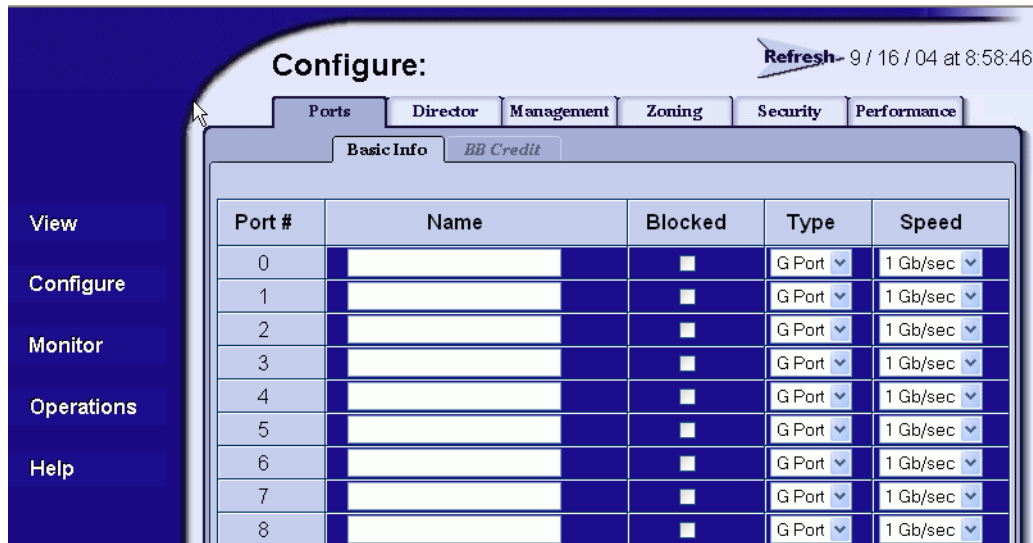

Figure 2-8 Configure Panel (Ports Page)
1. At the *View* panel, select the *Configure* option at the left side of the panel. The *Configure* panel opens with the *Ports* page displayed (Figure 2-8 on page 2-16).